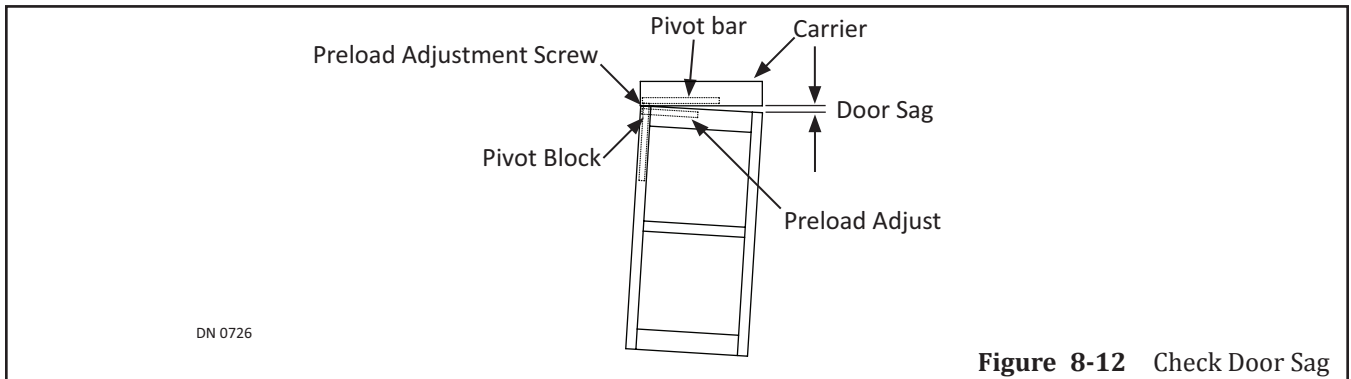

Figure 8-12 Check Door Sag
2. Check for door sag. Please see Figure 8-12.